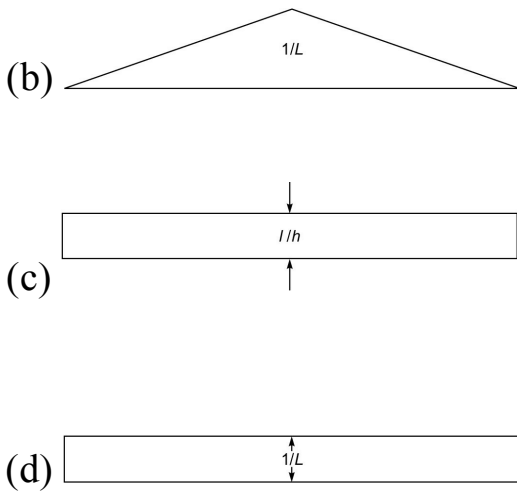

Fig. Q. 29
29. In case of a suspension cable of span l and central sag h with two-hinged stiffening girder, influence line diagram for equivalent cable load W_e is (Ref. Fig. Q. 29).